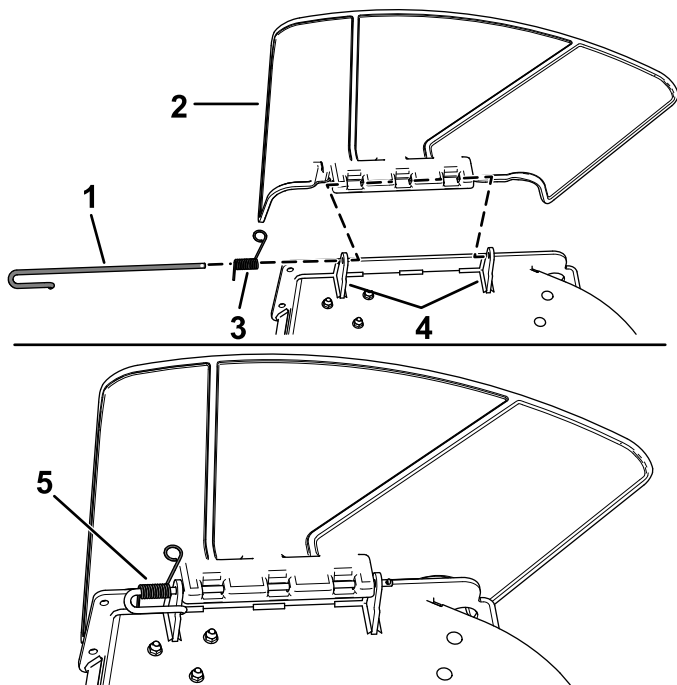

Figure 65
1. Disengage the spring from the notch in the deflector bracket and slide the rod out of the welded deck brackets, spring, and discharge deflector (Figure 65).